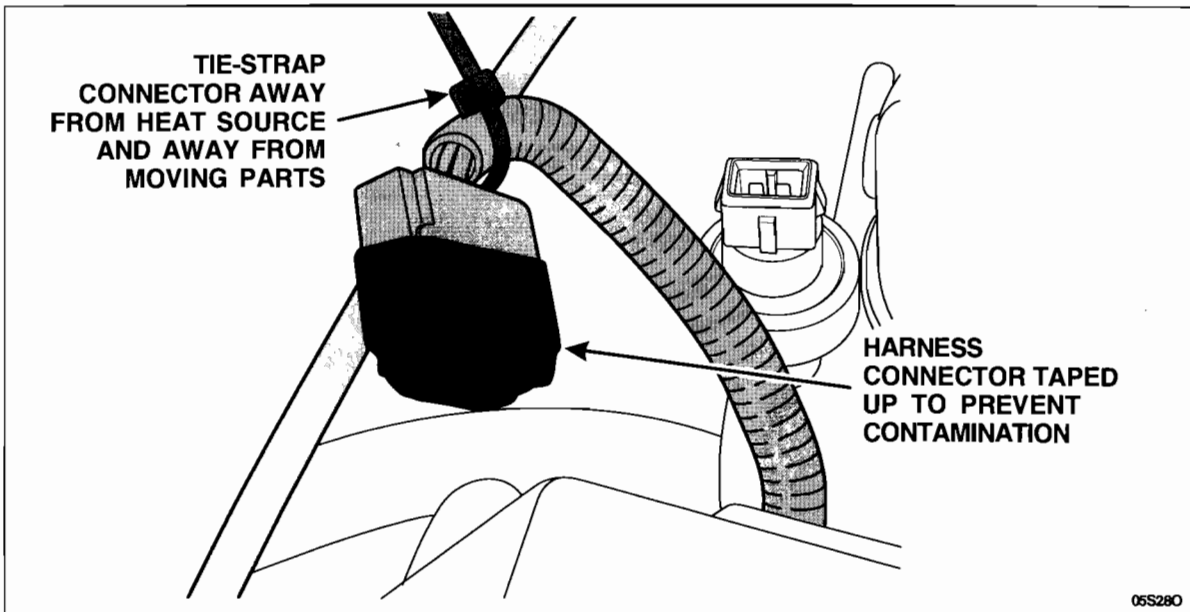

FIGURE 9
3. Secure the connector by tie strapping it to the speed control cable or another available location to prevent rattle or contact with other components. See Figure 9.